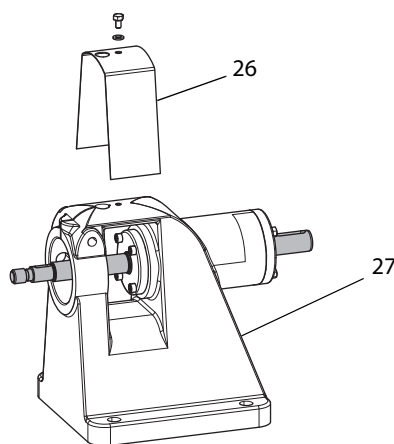

Fig. 22 Bearing block cover
6. Relubricate the cylindrical roller bearing (31). We recommended using: JAX Halo-Guard FG-2 bearing grease or alternatively a white NSF H1 grease. Alternatively, use an equivalent brand of lubricant of similar quality and viscosity. See Table 4, "Bearing grease amounts: model KF".
10. Mount the bearing cap (32).
11. Remount the cover (26) on the bearing block (27); see Fig. 22, "Bearing block cover," page 16.